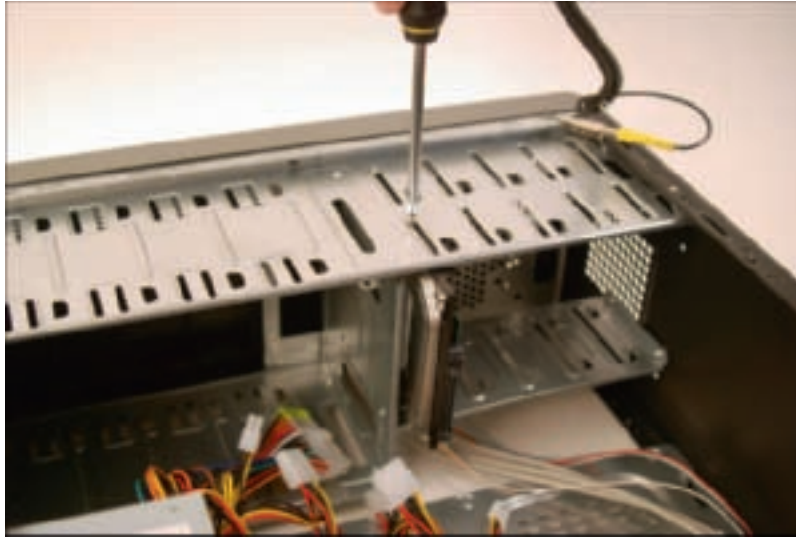

Figure 8-23 Secure one side of the drive with one or two screws
3. For a stationary bay, slide the drive in the bay, and secure one side of the drive with one or two short screws (see Figure 8-23). It's best to use two screws so the drive will not move in the bay, but sometimes a bay only provides a place for a single screw on each side.